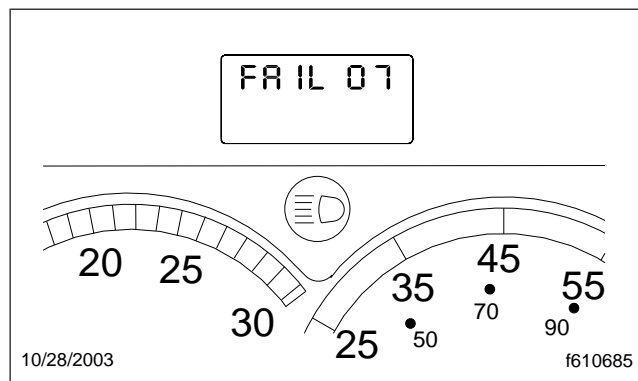

Fig. 5, Fault Code FMI 07
4. Press the mode/reset button again and the third ICU screen displays "Fail 07". See Fig. 5.